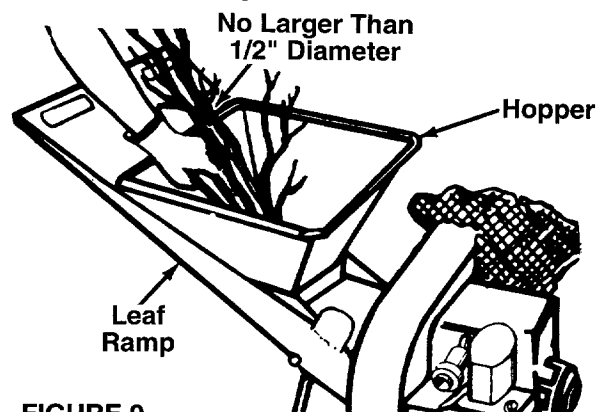

FIGURE 9.
1. Leaves and small branches up to 1/2" diameter can be fed into the hopper when it is in the raised position. See figure 9. If it becomes necessary to push material into the shredder, use a small diameter stick—NOT YOUR HANDS. The stick cannot exceed 1/2" in diameter so it will be ground up if it gets into the impeller assembly.